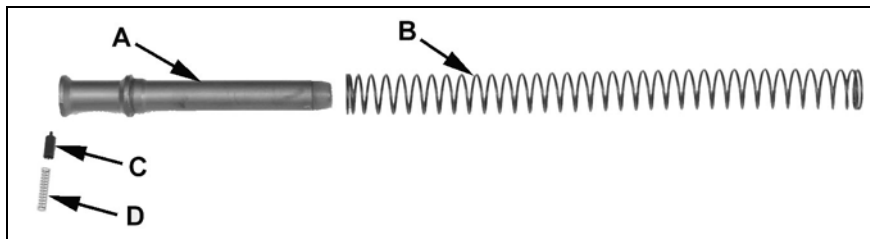

Figure 1
2. Remove the buffer (A), buffer spring (B), detent (C) and detent spring (D). See figure 1.